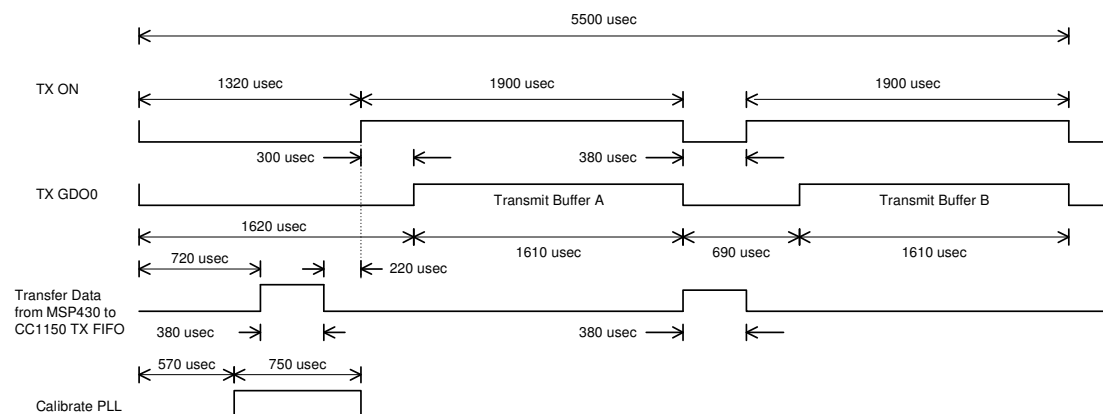

Figure 5 – Transmitter Timing, (300 kbps, double TX)
An additional complication can arise due to the fact that the oscillators on the transmitter and receiver are not at precisely the same frequency. This causes the received packet to occasionally arrive too soon or too late; when the software detects that this will happen, a few of the samples (18) are skipped in order to resynchronize the receiver to the transmitter. See Figure 5. In this figure, 'A Valid' indicates that data in the 'A' buffer is valid; similarly, 'B Valid' indicates that data in the 'B' buffer is valid. A buffer becomes 'invalid' while data is being moved from the RX buffer and unpacked into Buffer A or buffer B – about 200 usec. 'Using A' and 'Using B' indicate that the receiver is currently 'playing back' data in the A or B buffers, respectively. In the first case ('Good'), buffer A becomes valid 846 usec before it is used. In the second case ('Poor'), the receiver's oscillator has drifted relative to the transmitter's, such that buffer A is received 3.9375 msec before it is used. In the third case ('Bad'), buffer A is received 4.7835 msec before it is used. Notice that buffer B now becomes invalid while it is being used; a 'Bad' situation indeed. To correct for this, the software will 'skip ahead' 18 samples to reposition the 'valid' and 'using' timings.